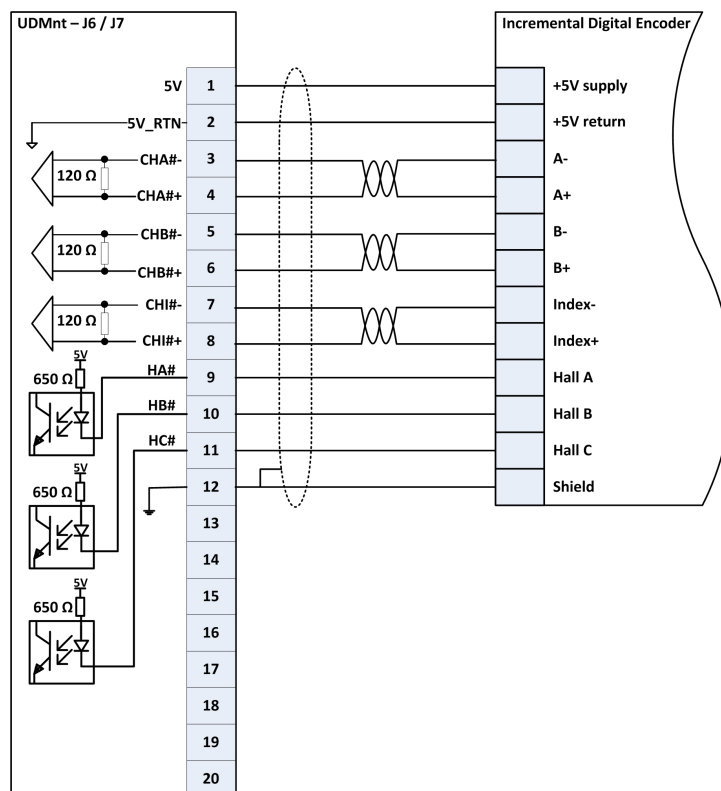
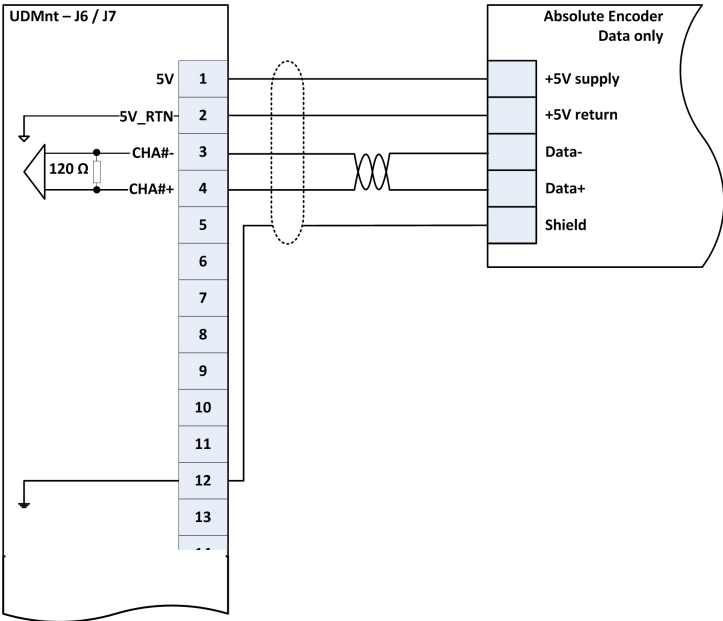

Figure 4-11. Incremental Digital Encoder with Hall / Commutation Tracks AqB,I Connections
Figure 4-15. Absolute Serial Encoders with Data Line Only Connections (Tamagawa Smart-Abs, Panasonic)
1. Connect the motors to J3 J4 according to Figure 4-11 through Figure 4-15.